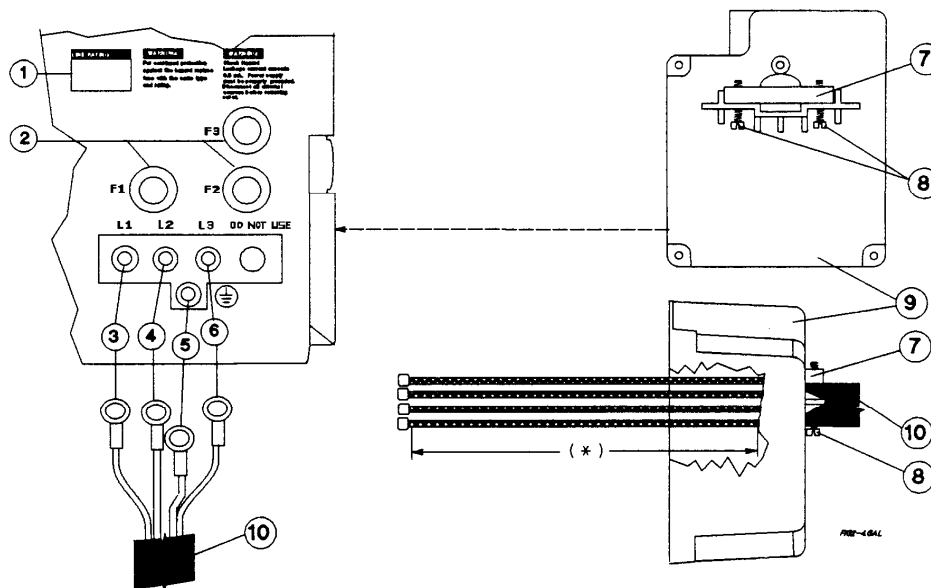

Figure 2-5. Connecting the Series 668xA Power Cord
See Figure 2-5 and proceed as follows:
1. Check the line fuses (②, Figure 2-5) as follows:
- a. Examine the **LINE RATING** label ① on the rear panel.
- b. Unscrew the line fuse caps (②) from the rear panel and verify that all fuses are as specified on the label. Replace the fuses.
2. Open the line clamp ⑦ and insert the line cord ⑩ through the opening.
3. Position the line cord so that the clamp is near the end of the outside insulating sheath. Tighten the screws ⑧ securing the clamp. Torque the screws using 2 to 4 inch-pounds (0.23 to 0.45 Newton meters).
- * Phase 1 ③ to L1. Phase 2 ④ to L2. Phase 3 ⑥ to L3.
5. Secure the ground wire ⑤ to the chassis earth ground stud.